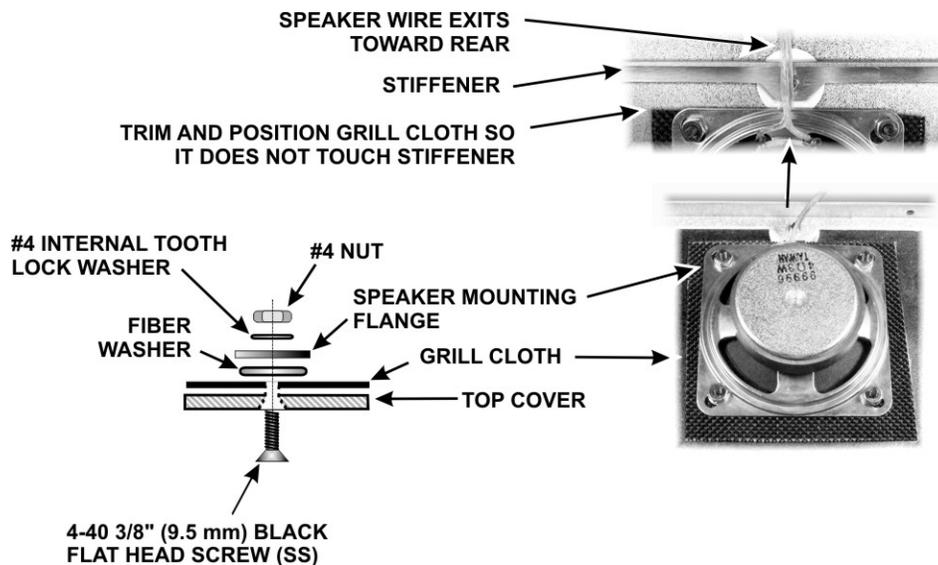
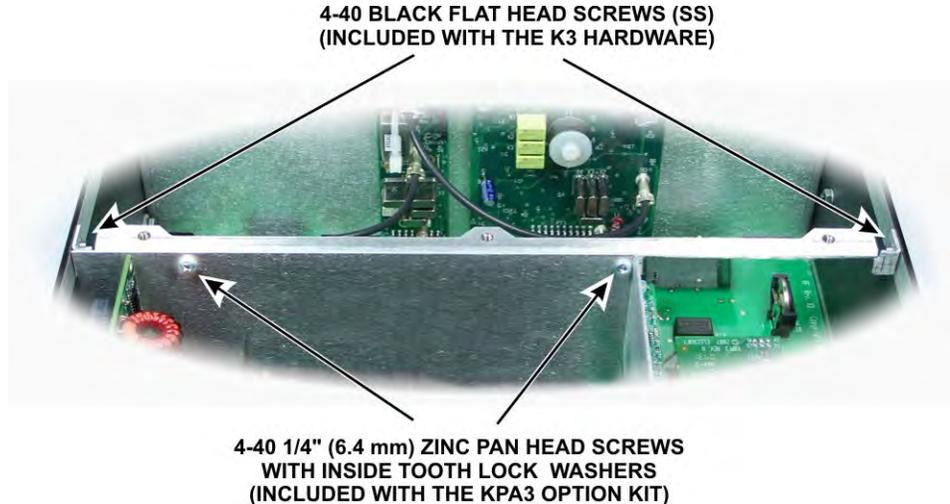

Figure 77. Mounting Loudspeaker.
Figure 81. Installing the Chassis Stiffener Bar.
- Trim the grill cloth to cover the speaker grill openings and overlap the four holes for the loudspeaker mounting screws. Mark and cut four holes in the grill cloth for screws to pass through the cloth. The grill cloth is shown as it must fit after the speaker is mounted in Figure 77. Normally, the stiffener will remain attached to the K3 when you remove the top cover. If you install the KPA3 100-watt amplifier, the stiffener will be attached to the KPA3 shield and cannot be removed with the cover (see Figure 81 on page 55). The grill cloth must be trimmed as shown so it cannot become trapped between the chassis stiffener and the top cover when the cover is removed and replaced.
□ Mount the speaker using the hardware shown in Figure 77. A suggested procedure for doing this is as follows:
□ Remove the stiffener bar from the top cover and install it on the chassis as shown in Figure 81. The hardware required to attach it to the shield are in the KPA3 Option kit. The black flat head screws used to attach it to the side panels are part of the K3 kit hardware.